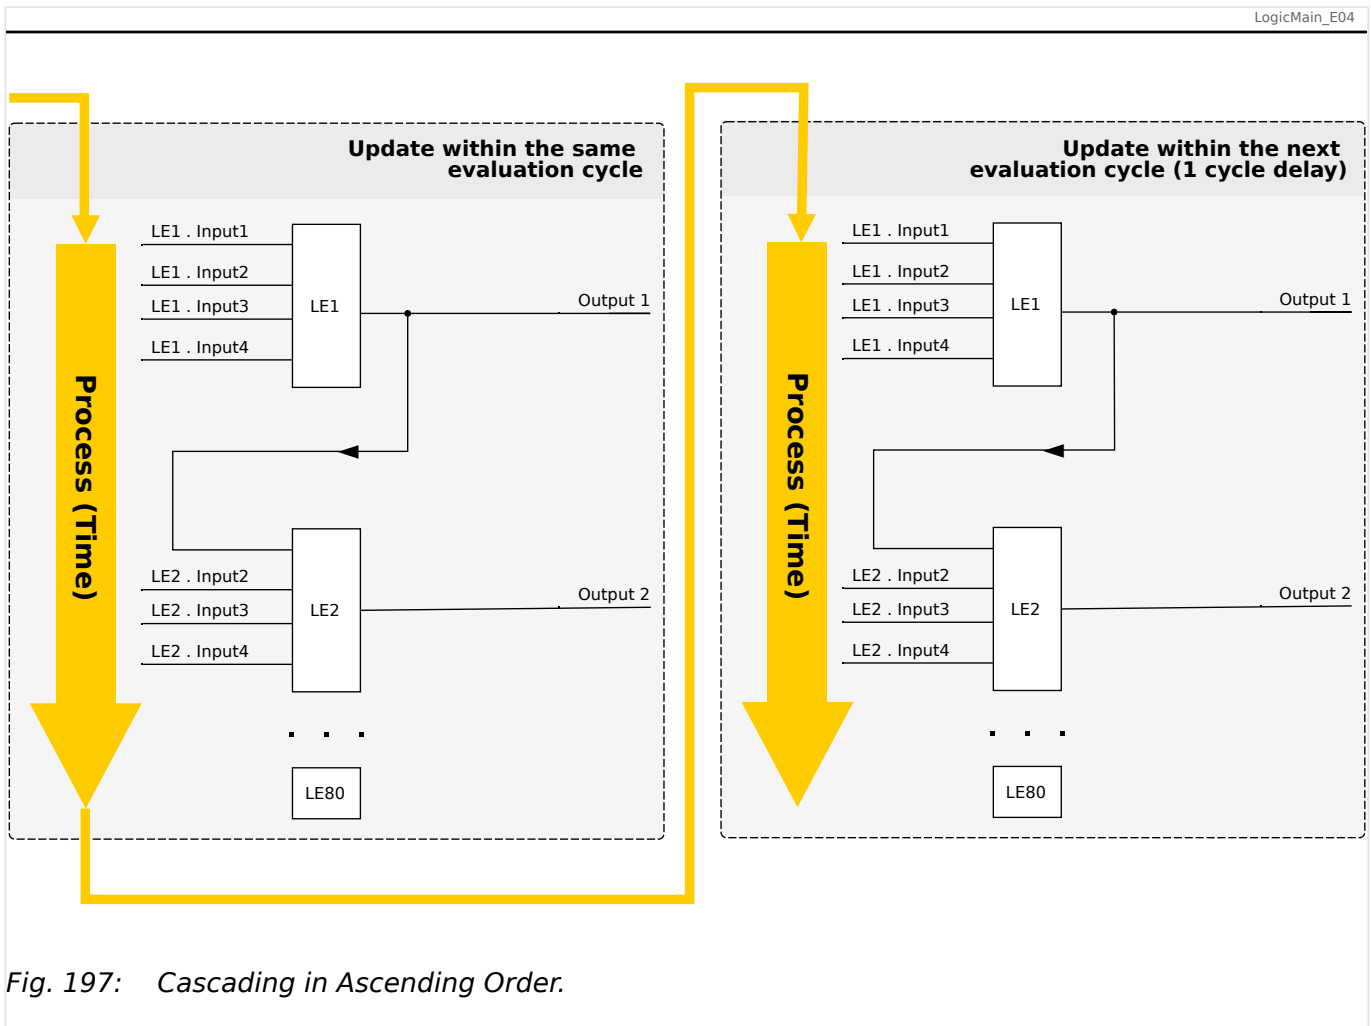
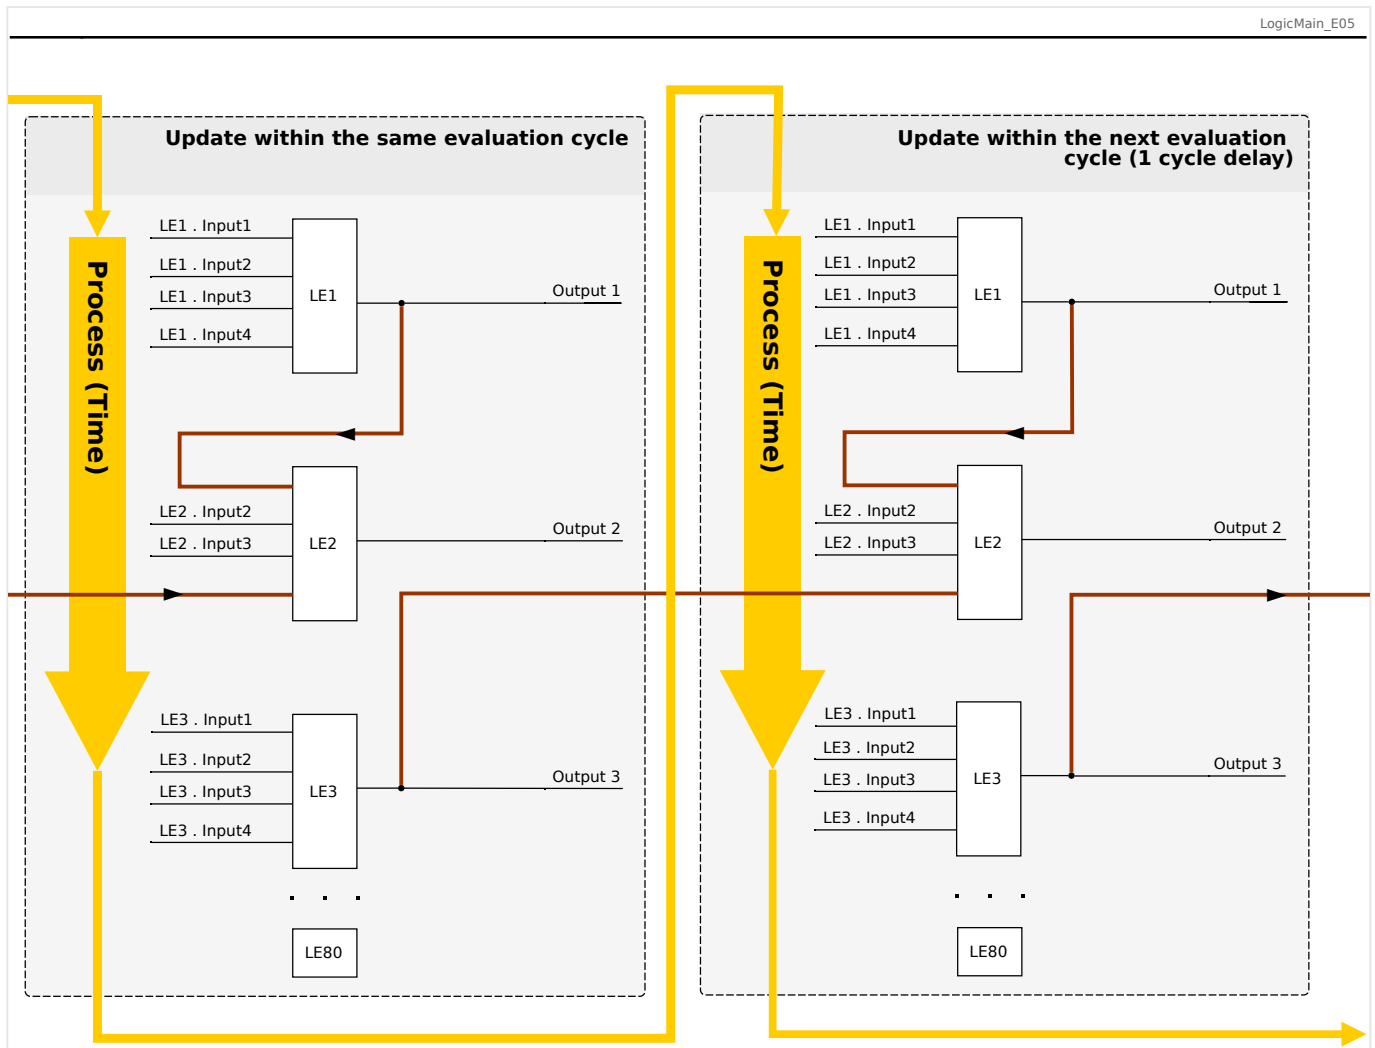

Fig. 197: Cascading in Ascending Order.
Fig. 198: Cascading in Descending Order.
- **Ascending** sequence means that some output is fed into the input of a logic equation with **higher** number. For instance, diagram  Fig. 197 below shows an example where the result of Logic Equation LE1 is used as an input of Logic Equation LE2.
- **Descending** sequence means that some output is fed into the input of a logic equation with **lower** number. For instance, diagram  Fig. 198 shows an example where the result of Logic Equation LE3 is used as an input of Logic Equation LE2.
Both ascending and descending sequences may be used and combined one with the other, with no immediate difference. However, due to the evaluation of all equations in ascending order the actual run-time values that are fed in at the input of an equation will have a different “age”, as is shown in  Fig. 197 and  Fig. 198 below.
In the example shown in Fig. 198 above, “Logic Equation 2” uses the output states of two other equations, “Logic Equation 1” and “Logic Equation 3”. The result of “Logic Equation 1” is used in ascending order and has therefore been evaluated within the same process cycle. The result of “Logic Equation 3” is used in descending order and has therefore been evaluated in the previous process cycle.